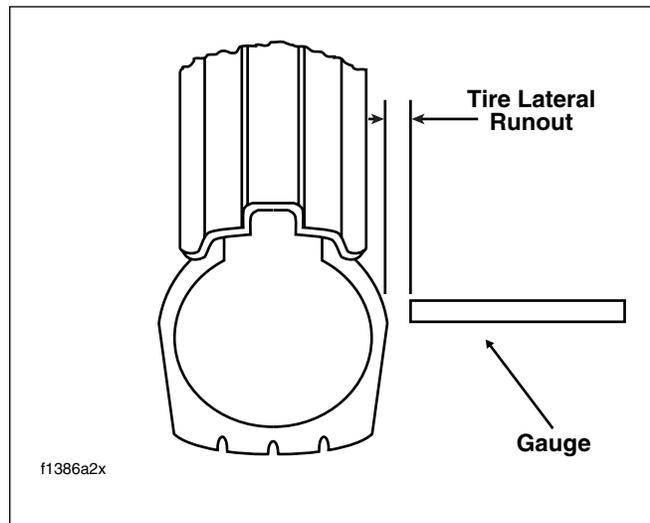

Figure 2-36. Checking Tire Lateral Runout
- Check runout by turning wheel on axle, measuring tread runout. See Figure 2-36.